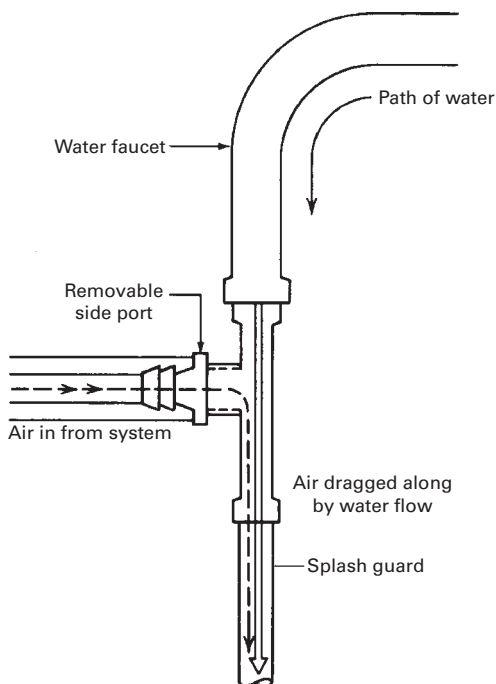

FIGURE 13.7 A water aspirator.
4. The **water trap** is in turn connected to a source of vacuum, most likely a **water aspirator** (see Fig. 13.7).
Sometimes you'll need a vacuum for special work like **vacuum distillation** and **vacuum filtration** as with the Buchner funnel. The **water aspirator** is an inexpensive source of vacuum (Fig. 13.7).